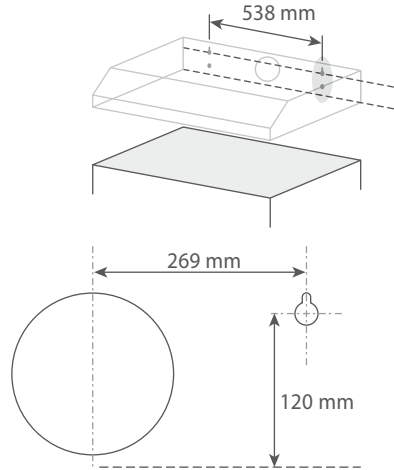

Fig.5 Determining location of the two fixing “keyholes”
- Determine location of the fixing “keyholes” on the wall. The hood is secured to the wall by two “keyholes” located on the rear panel of the hood in the top left and right hand corners. From the point where the horizontal and vertical lines drawn earlier intercept, use a spirit level and pencil and draw another horizontal line 120 mm above the first horizontal line (ensuring that the line can easily be erased or the line will be hidden after installation) as shown in fig.5. This now indicates where the top of the “fixing keyholes” are. Where the vertical line meets the top horizontal line (just drawn), measure and mark both sides of the vertical line, showing where to drill.